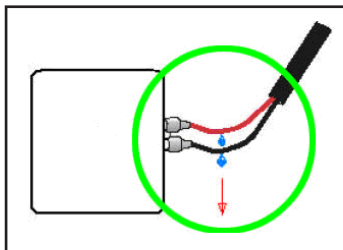

Figure 6 - Correct Cable Position
- 1.8. Ensure that the cable is placed in such a way that water does not leak into the connector. See Figure 6.